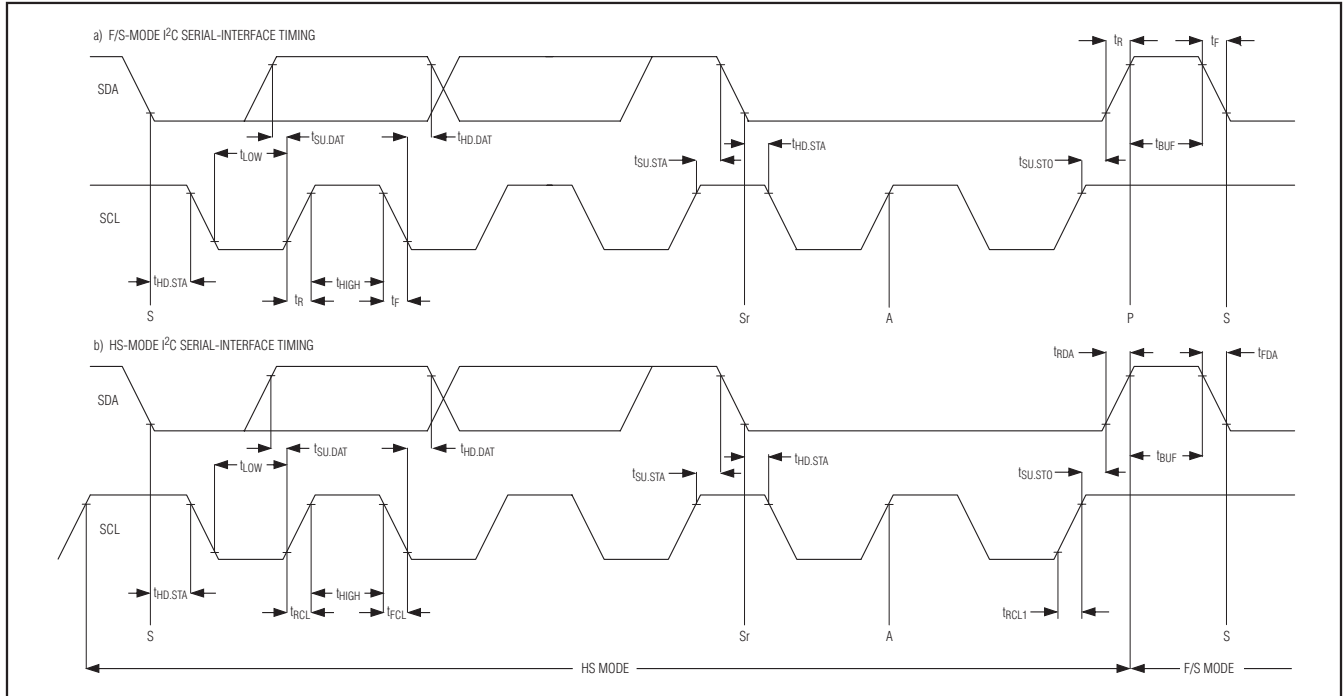

Figure 1. I²C Serial-Interface Timing
**Note 12:** A master device must provide a data hold time for SDA (referred to  $V_{IL}$  of SCL) to bridge the undefined region of SCL's falling edge (Figure 1).
At power-up, the MAX11600–MAX11605 bus timing defaults to fast mode (F/S mode), allowing conversion rates up to 44ksps. The MAX11600–MAX11605 must operate in high-speed mode (HS mode) to achieve conversion rates up to 188ksps. Figure 1 shows the bus timing for the MAX11600–MAX11605 2-wire interface.